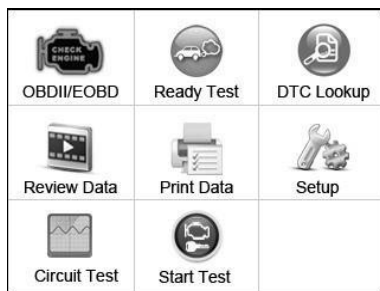

Figure 6.1
- Use the **UP/DOWN** scroll button and **LEFT/RIGHT** scroll button to select **Ready Test** from **Main Screen** (Figure 6.1), and press the **OK** button.